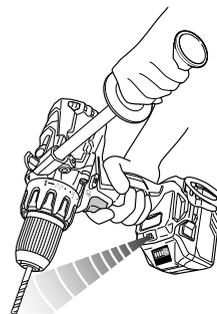

Fig. 22
17. LED light warning signals (Fig. 22)